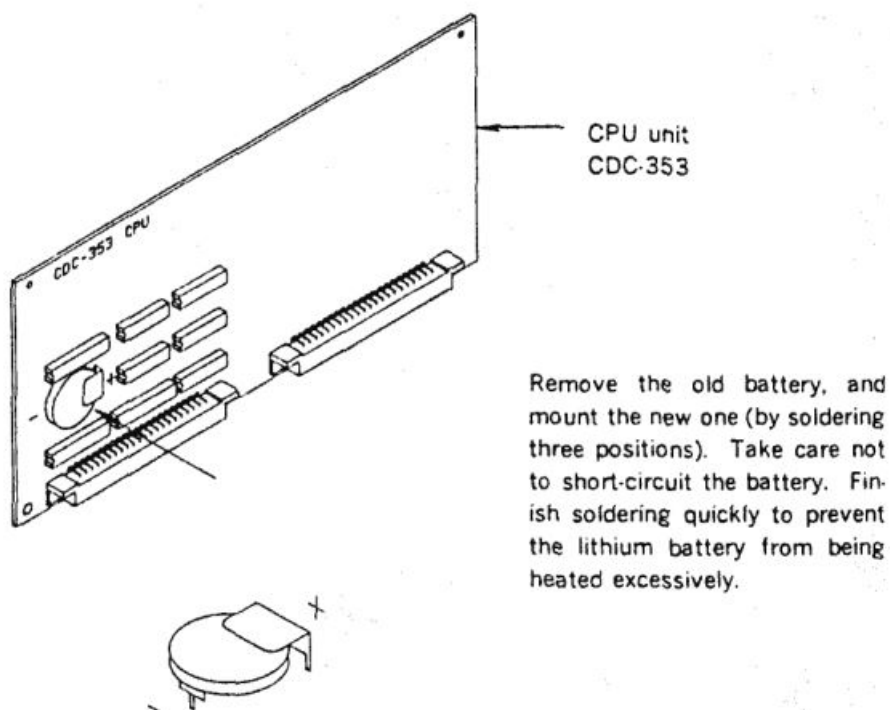

Fig. 7-2 Replacing Lithium Battery
4. Replace the lithium battery as shows in Fig. 7-2.